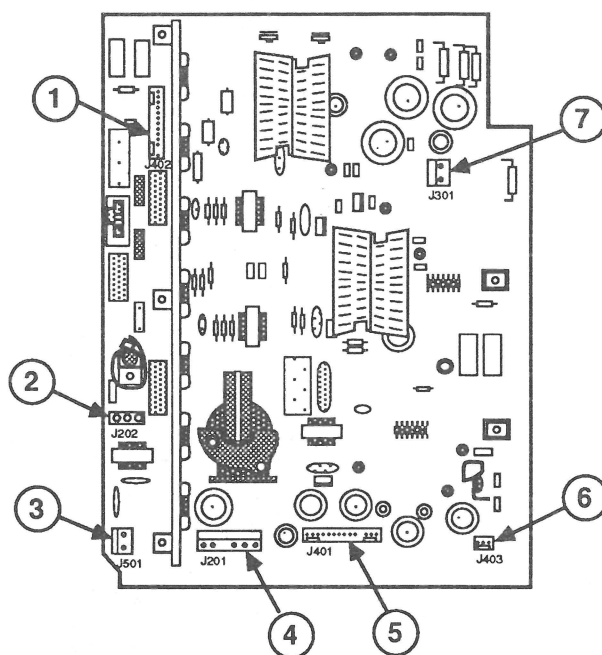

FIGURE 18
1. Starting with the connectors located at the bottom of the main board, reconnect the connectors listed in Table 4 and shown in Figure 18. **Be sure to route the three-wire cable to connector J202 over the CRT neck!**